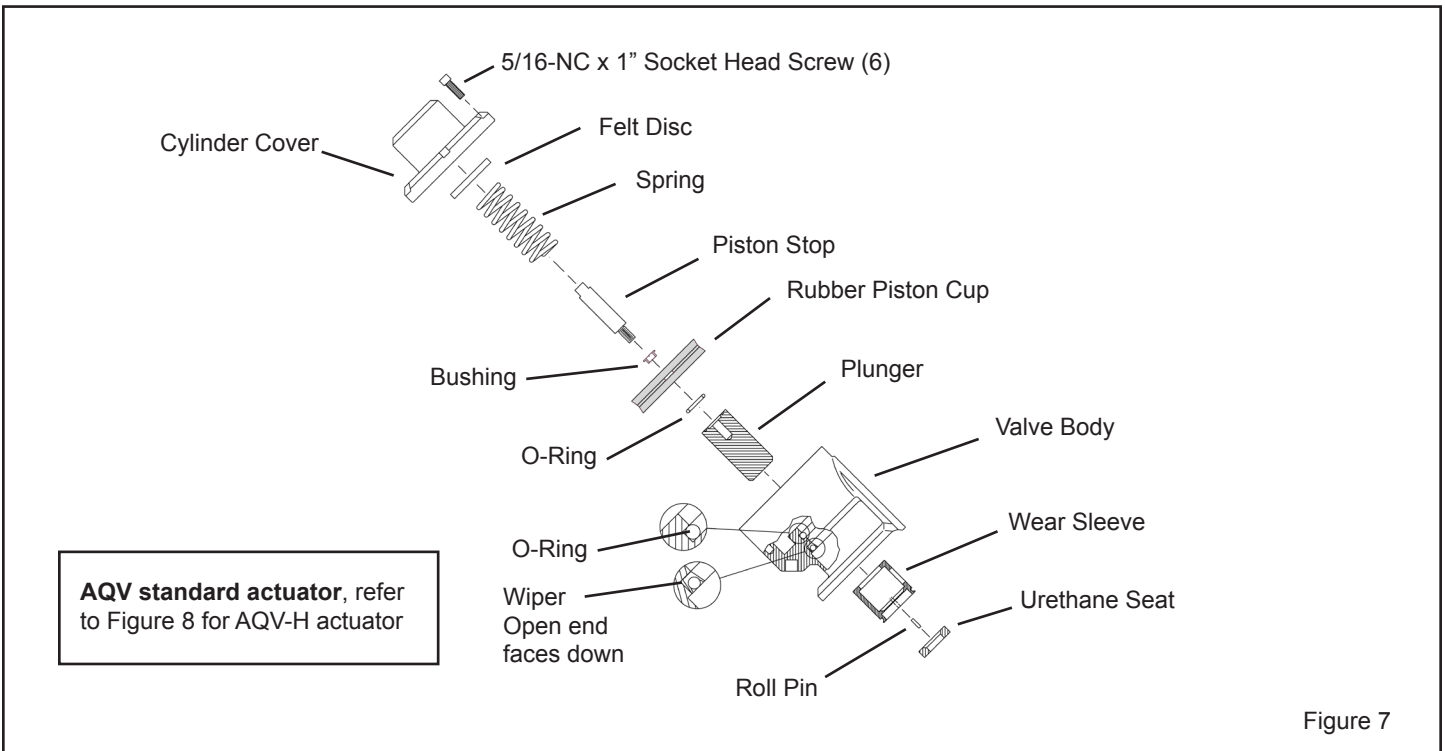

Figure 7
**4.2.5** Refer to Figure 7 and unscrew the six socket head screws, and remove the cylinder cover and spring. Spring compression is relieved when the cover is approximately 9/16" from the actuator valve body.
**4.2.10** It is not necessary to separate the plunger from the piston unless either part is scored or worn. To separate the parts, hold the plunger in a vise with the vise jaws covered with copper or similar protection (if the plunger is damaged it does not matter if the vise jaws mar the plunger). Using a wrench placed on the flats of the piston stop, unscrew the stop. **NOTE:** if the piston is aluminum, replace it with the rubber piston-cup and bushing. The bushing flange must be placed as shown in Figure 7, on the top side of the piston-cup, facing toward the piston stop.
**4.2.15** If the plunger and piston were separated as noted in Section 4.2.10, apply removable thread sealant to the threads on the piston stop and reassemble the parts using a new o-ring. Make sure the bushing is installed in the piston as shown in Figure 7.
**4.2.16** Replace the wiper and o-ring in the actuator body; the o-ring side of the wiper must face toward the bottom of the body as shown in Figure 7.